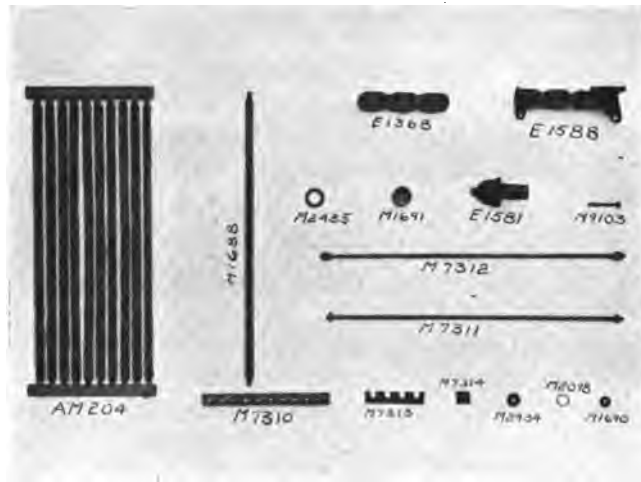

Fig. 30.
- 198** — The radiator is built up with twelve sections AM 204 as shown in Fig. 30, six sections being on each side of radiator manifolds E1368 and E1588. Ten finned tubes M1688 set in two section headers comprise a radiator section. Tie rods M7311 and M7312 hold the section AM204 and the section on the opposite side of the radiator manifolds in place. Fig. 30 shows a view of radiator parts.
The radiator is built up with twelve sections AM 204 as shown in Fig. 30, six sections being on each side of radiator manifolds E1368 and E1588. Ten finned tubes M1688 set in two section headers comprise a radiator section. Tie rods M7311 and M7312 hold the section AM204 and the section on the opposite side of the radiator manifolds in place. Fig. 30 shows a view of radiator parts.